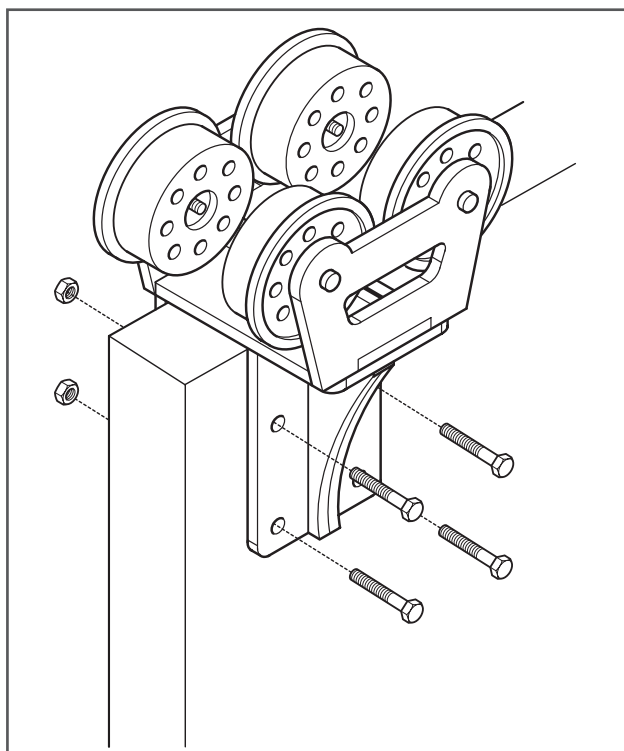

Figure 4
7. Install the hangers to the door using hex bolts (C.) and nuts (E.) (provided) (figure 4).